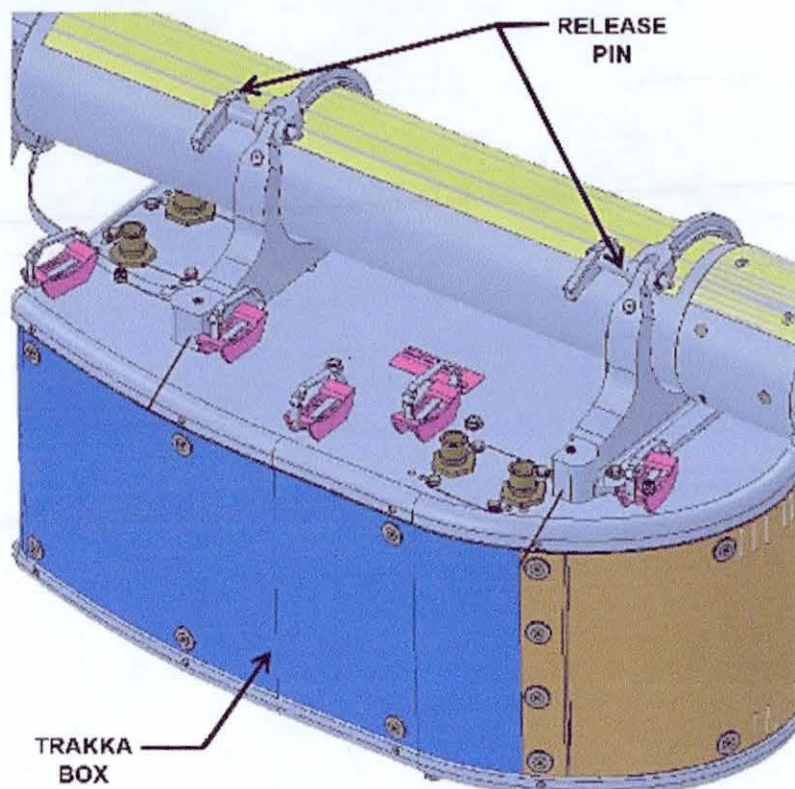

FIGURE 7: TRAKKA BOX INSTALLATION
12. Re-attach the Trakka Box (with Dart brackets installed) to the Multi-Functional-Step using the Quick Release Pins as shown in Figure 7.